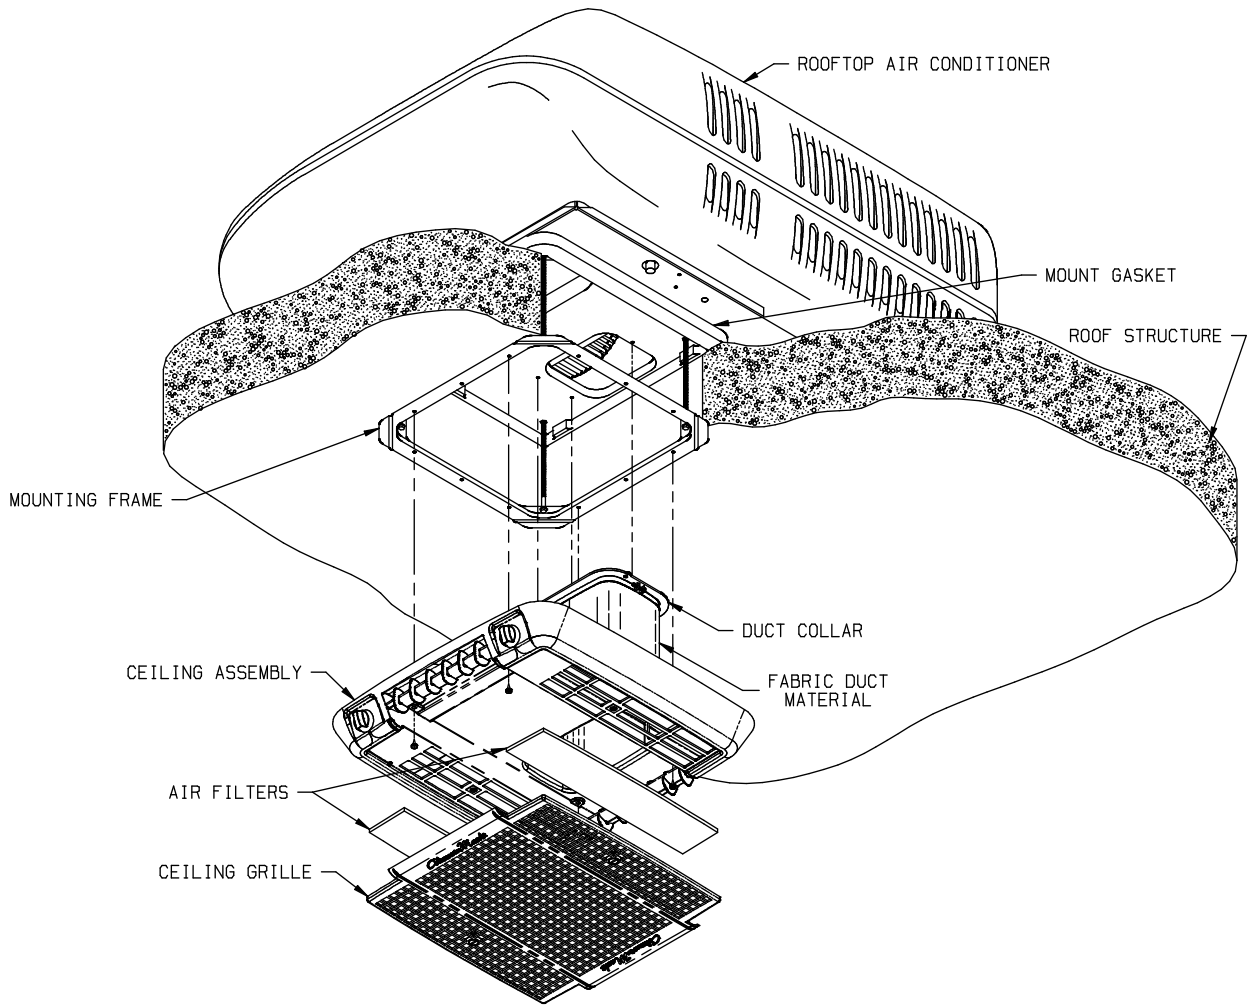

FIGURE 1
3. Remove the three (3) screws that secure the nylon duct collar to the air conditioner basepan and the four (4) screws that hold the ceiling assembly to the unit mounting frame (See Figure 1).